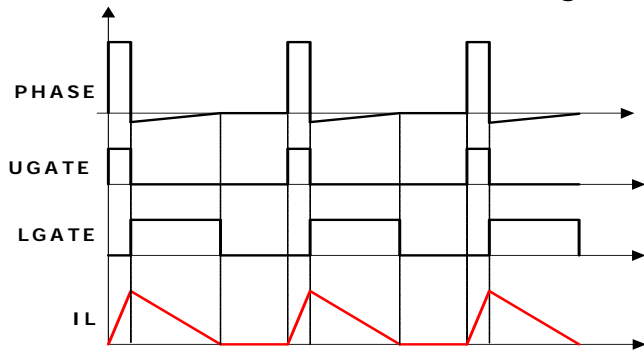

FIGURE 8. DIODE EMULATION
ISL62881C can operate in diode emulation (DE) mode to improve light load efficiency. In DE mode, the low-side MOSFET conducts when the current is flowing from source to drain and doesn't allow reverse current, emulating a diode. As shown in Figure 8, when LGATE is on, the low-side MOSFET carries current, creating negative voltage on the phase node due to the voltage drop across the ON-resistance. The ISL62881C monitors the current through monitoring the phase node voltage. It turns off LGATE when the phase node voltage reaches zero to prevent the inductor current from reversing the direction and creating unnecessary power loss.